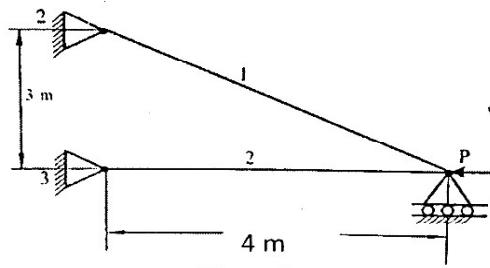

Figure 2
b) For the two-bar truss shown in figure 2. Determine the nodal displacement. A force of $P = 1000 \text{ kN}$ is applied at node 1, take $E = 210 \text{ GPa}$ and $A = 600 \text{ mm}^2$ for each element. [8]